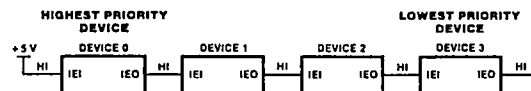

**Figure 12. Counter Mode Timing**
**Counter Operation.** In the counter mode, the CLK/TRG pulse input decrements the down-counter. The trigger is asynchronous, but the count is synchronized with CLK. For the decrement to occur on the next rising edge of CLK, the trigger edge must precede CLK by a minimum lead time as shown in Figure 12. If the lead time is less than specified, the count is delayed by one clock cycle. The trigger pulse must have a minimum width, and the trigger period must be at least twice the clock period.